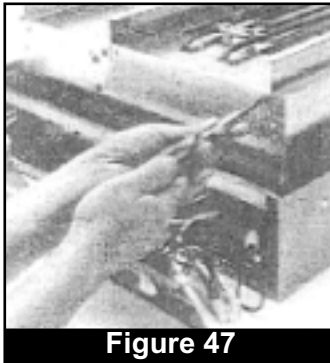

Figure 47
2. Remove four screws that secure the air deflector housing (on your right as you are facing the front of heating module) to the module with a medium (6") flathead screwdriver.(Fig. 47)